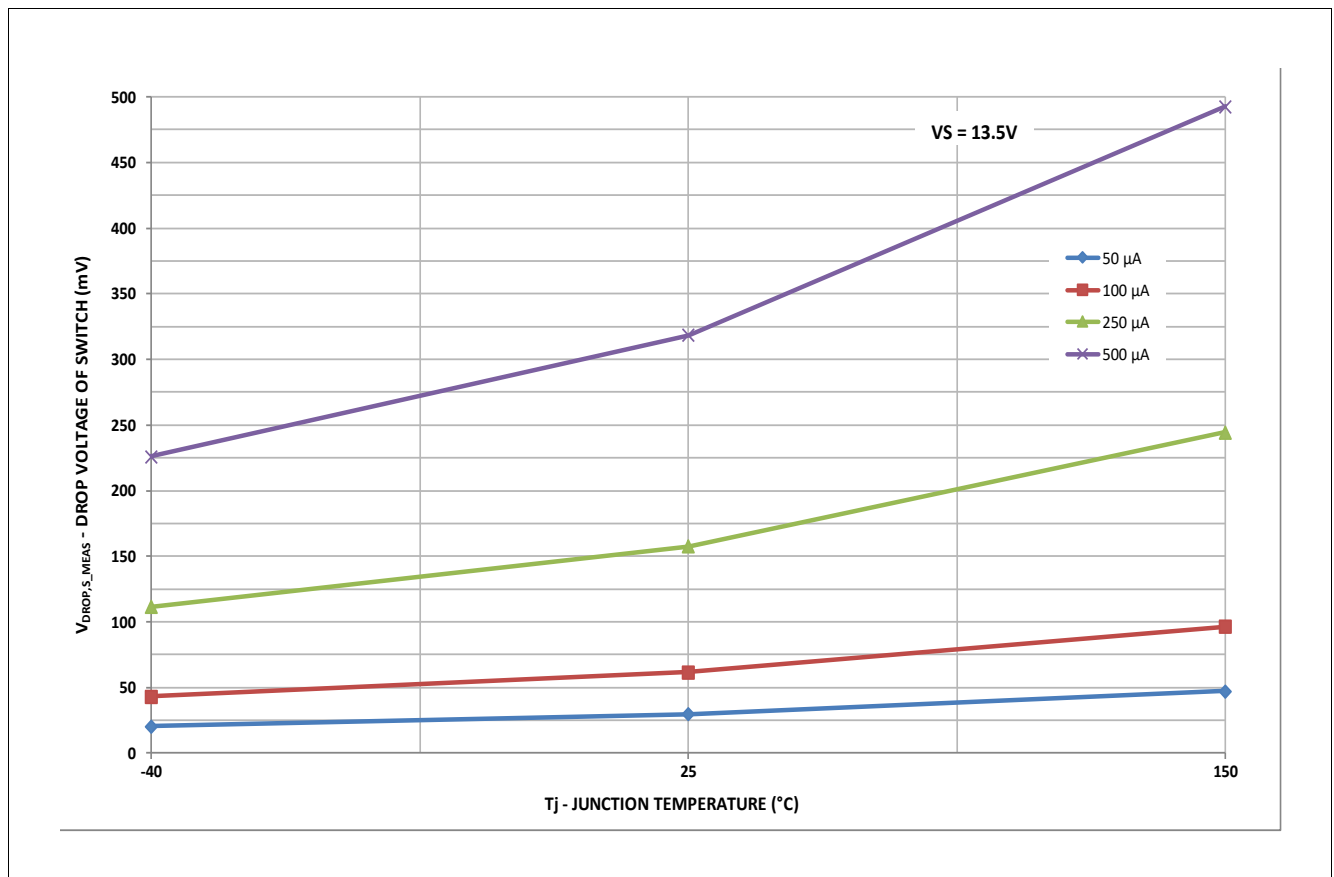

Figure 13 Typical Drop Voltage Characteristics of switch S_MEAS (between WK/VSENSE & FO/GPIO)
*Note: There is a diode in series to the switch S_MEAS (not shown in the **Figure 52**), which influences the temperature behavior of the switch. See also **Figure 13**.*